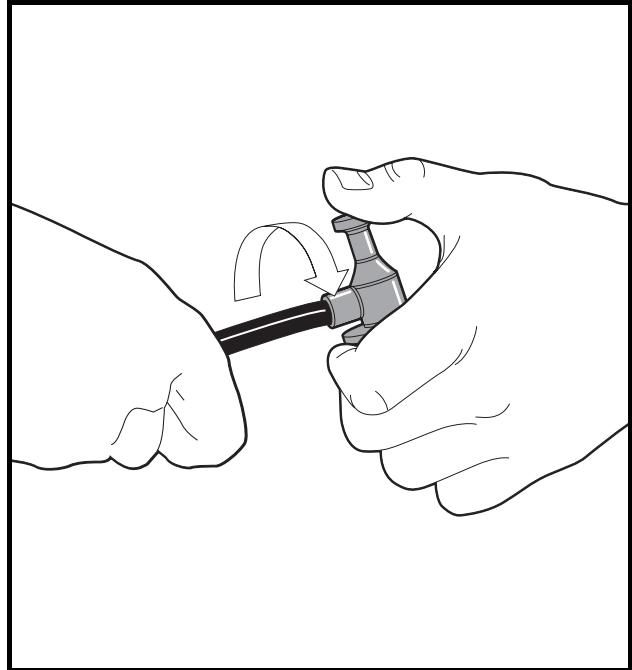

Figure 11-27 Spark Plug Cap Removal
- 5.2. Remove the cap from the wire by turning the cap counterclockwise three or four revolutions while gently pulling it off the wire (**Figure 11-27, Page 11-25**).
- 4.2. Remove the cap from the wire by turning the cap counterclockwise three or four revolutions while gently pulling it off the wire (**Figure 11-27, Page 11-25**).